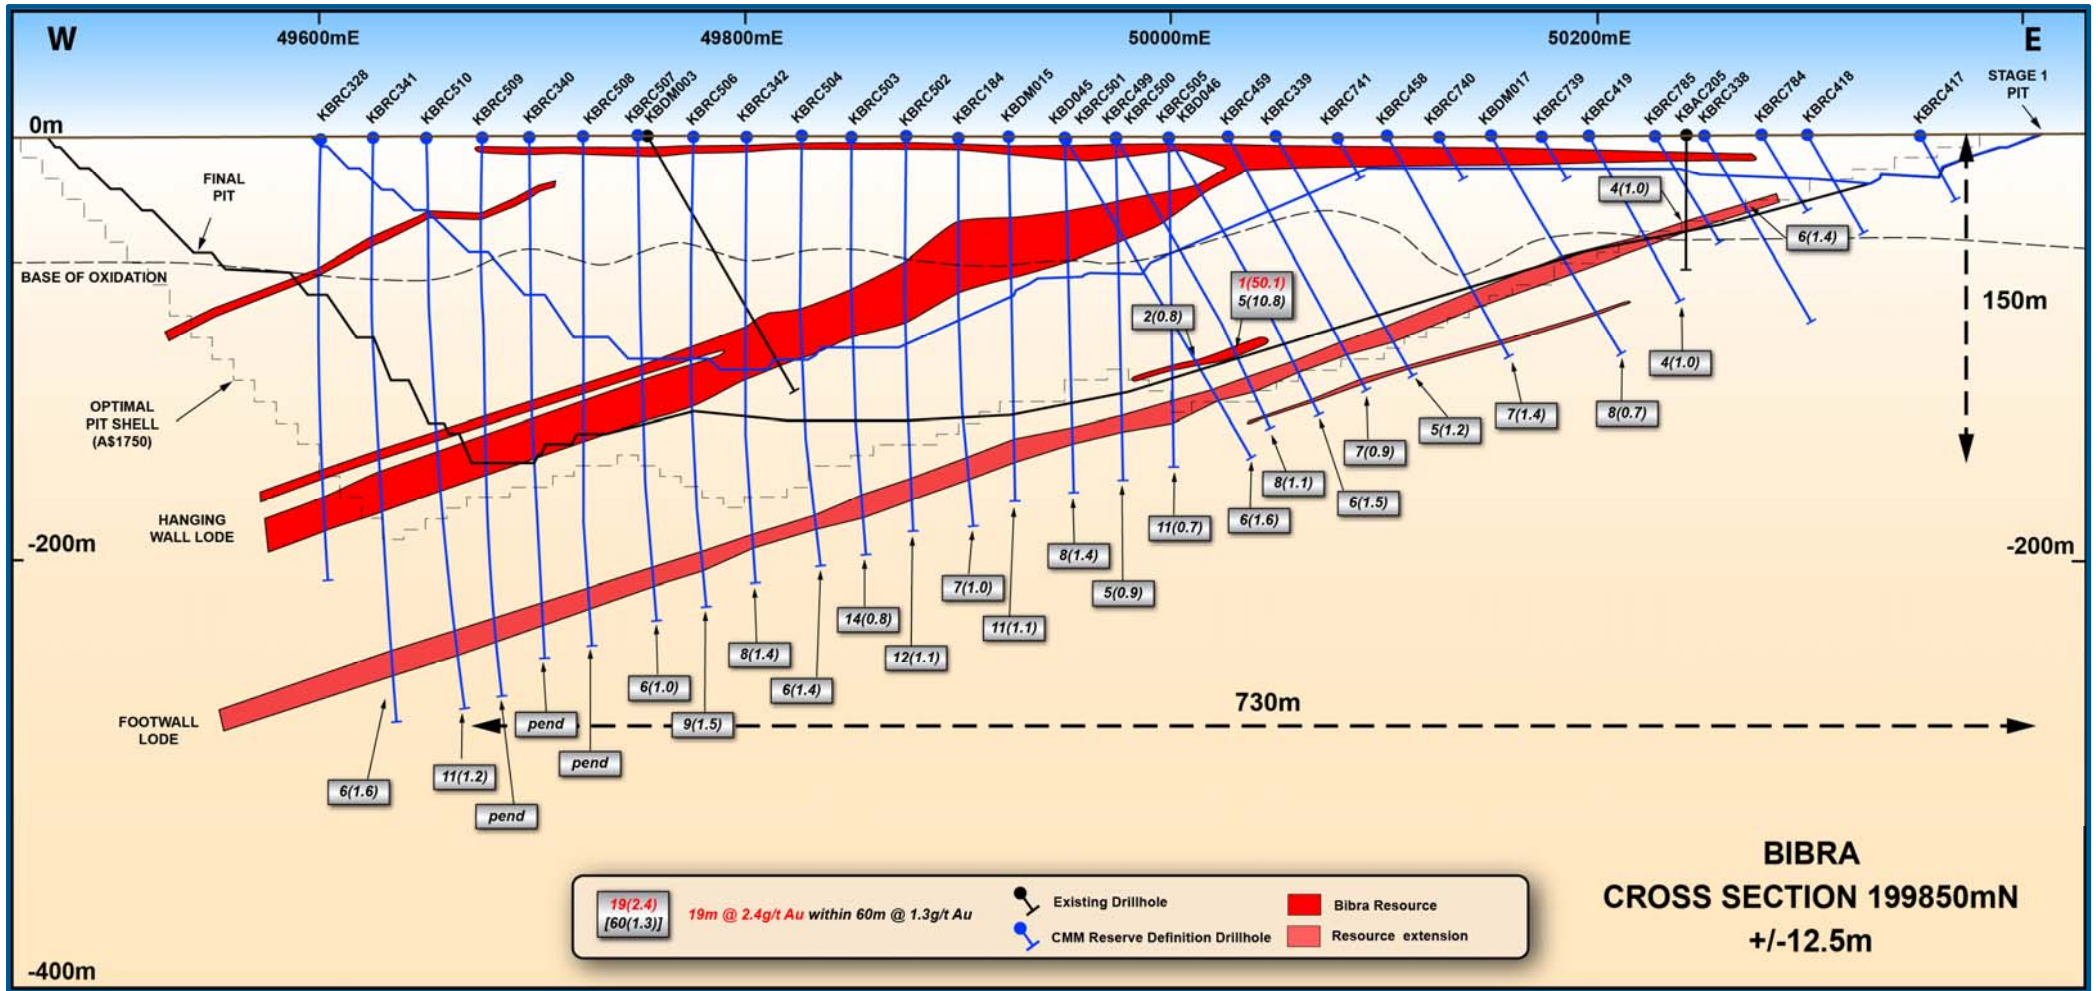

Figure 3: Interpreted Cross Section 199,850mN
- A series of holes were drilled to test for the potential southern extension of the Main Footwall lode. This position is located just beneath the Scoping Study Design Pit and, as such, any addition or improvement to the resource in this position could result in the pit design driving deeper to capture additional resources at minimal stripping ratio (Figure 3 and 4). The results returned to date clearly demonstrate the potential for a significant extension to the resource in this location. Results include (see Appendix 2 for details):